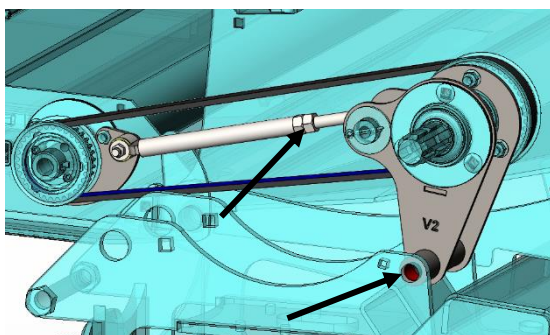

Figure 47
1. Remove the tension rod by loosening the jam nuts and shorten the rod to remove the belt. Figure 47
2. The idler can be removed by removing the pin at the bottom of the idler mount. Figure 47
8. The belt is tension with the nuts on the adjustment rod, Figure 47.